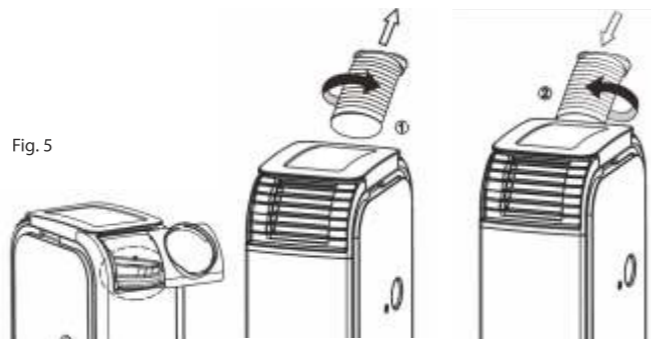

Fig. 5
**Installation of air outlet hose (Fig. 5)**